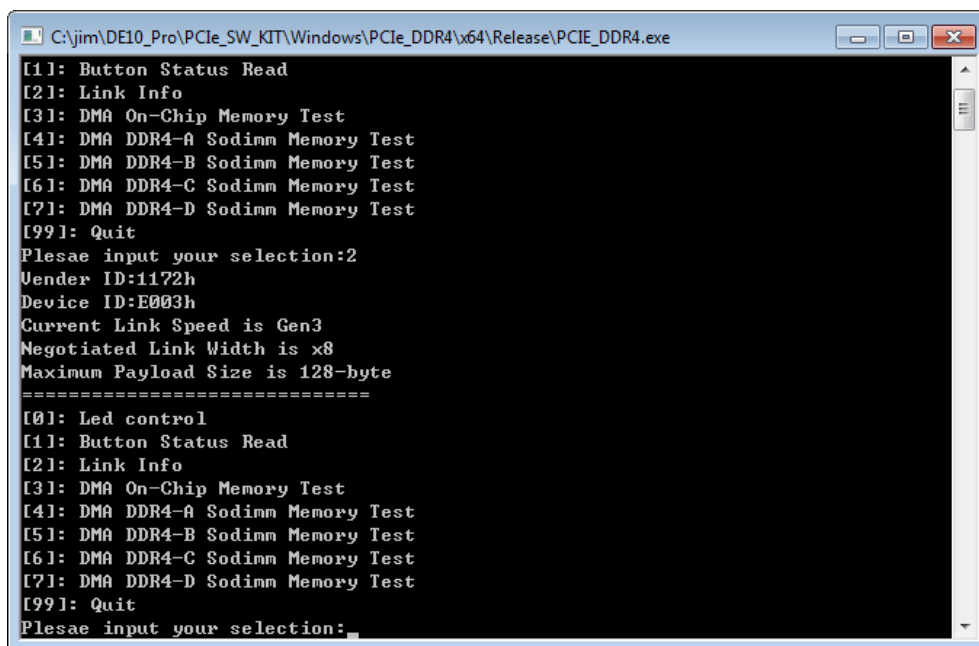

Figure 7-17 Screenshot of Link Info
9. Type 2 followed by the ENTER key to select the Link Info item. The PCIe link information will be shown as in **Figure 7-17**. Gen3 link speed and x8 link width are expected.